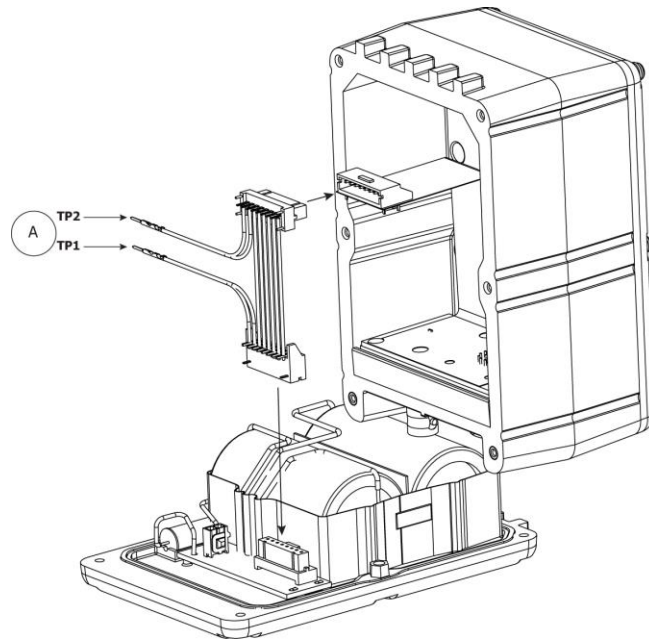

Figure 8 Current Draw Test Setup
- 3) Install test fixture 8241 in the power circuit in series between the battery pack connector and the ELT connector (see Figure 8).